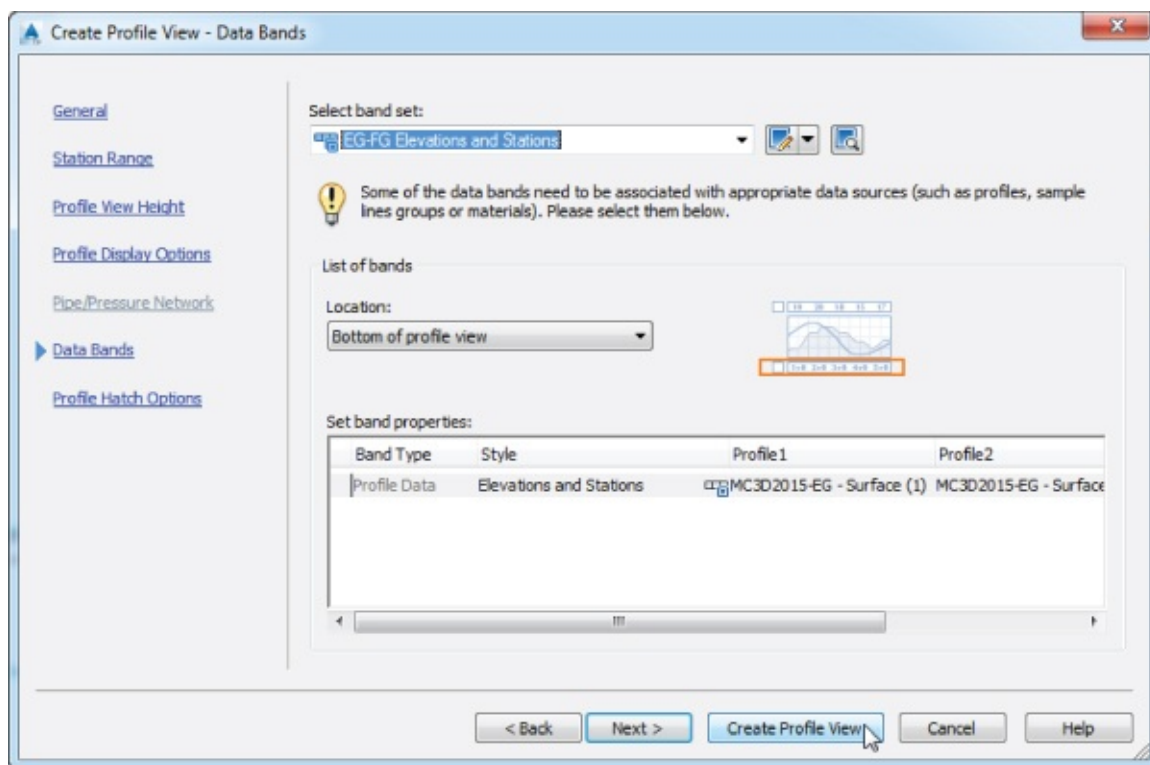

Figure 7.9 The Create Profile View – Data Bands wizard page
17. On the Create Profile View – Data Bands wizard page, verify that the band set is set to EG-FG Elevations And Stations (Figure 7.9). Notice in the Set Band Properties area that the Profile1 and Profile2 columns are both set to MC3D2015-EG-Surface (1). We will look at data bands in greater detail a bit later.